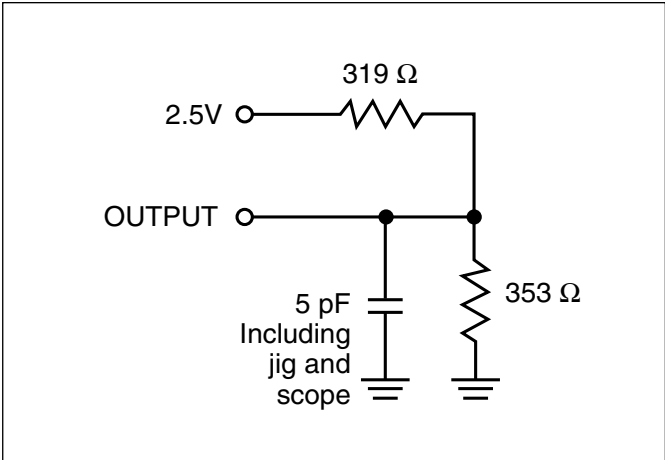

Figure 1b.
2. Tested with the load in Figure 1b. Transition is measured ±500 mV from steady-state voltage. Not 100% tested.
2. Tested with the load in Figure 1b. Transition is measured ± 500 mV from steady-state voltage. Not 100% tested.